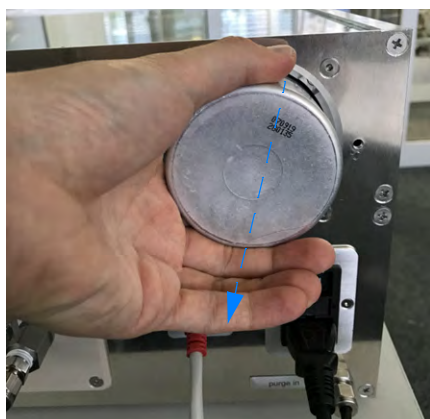

Figure 6.4: Pulling out DryPath™ filter
2. On the gas analyzer upper right rear side, carefully pull out the used filter from the housing (figure 6.4).